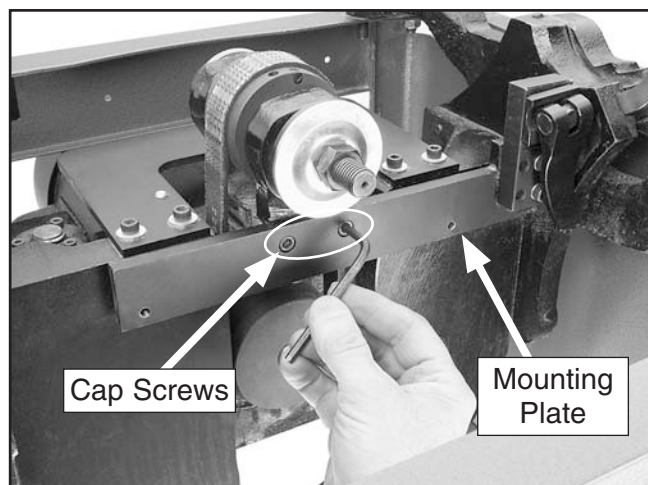

Figure 133. Removing mounting plate.
8. Remove the cap screws that secure the mounting plate shown in **Figure 133**, then remove the plate.